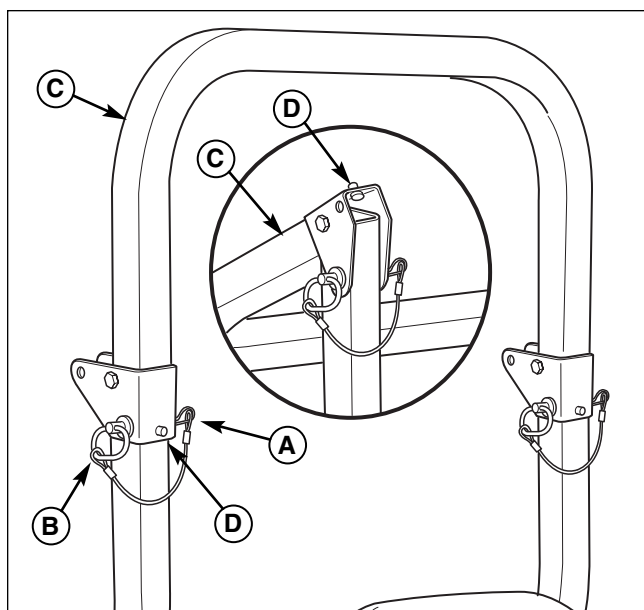
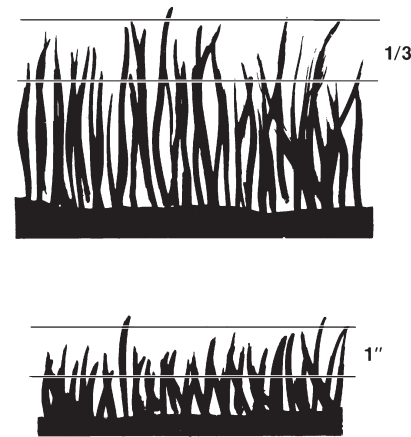

Figure 9. Raise & Lower the Roll Bar
Figure 10. Proper Cutting Height
1. Pull the hair pin clips (A, Figure 9) out of the retainer pins (B).
2. Push or pull the top of the roll bar (C) forward against the rubber stops (D) and remove the retainer pins (B).
3. Lower the roll bar and reinstall the retainer pins and hair pin clips to secure the roll bar in the down position (see insert, Figure 10).